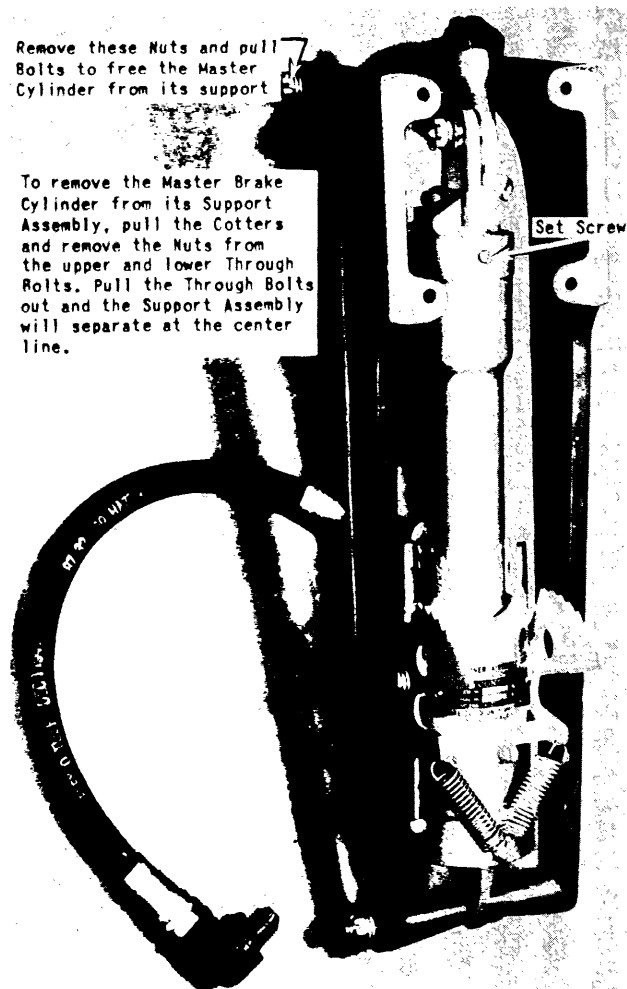

Figure 198 - Master Brake Cylinder and Support Assembly
(1) Remove either plug on the top of the cylinder, and turn the cylinder upside down to drain the hydraulic fluid.
(2) Remove the lock screws, one in the upper and one in the lower end fitting. (See figure 198.) In the manufacture of the unit the end fittings are lined up and machined with the housing or cylinder to which they belong. Therefore, if disassembling